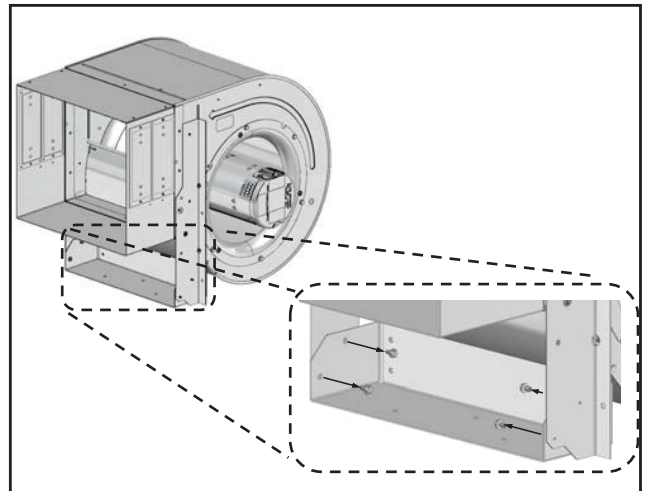

Fig. 43 - Location of Screws Under the Blower Collar
3. Remove and retain (4) screws under the blower collar. See Fig. 43.